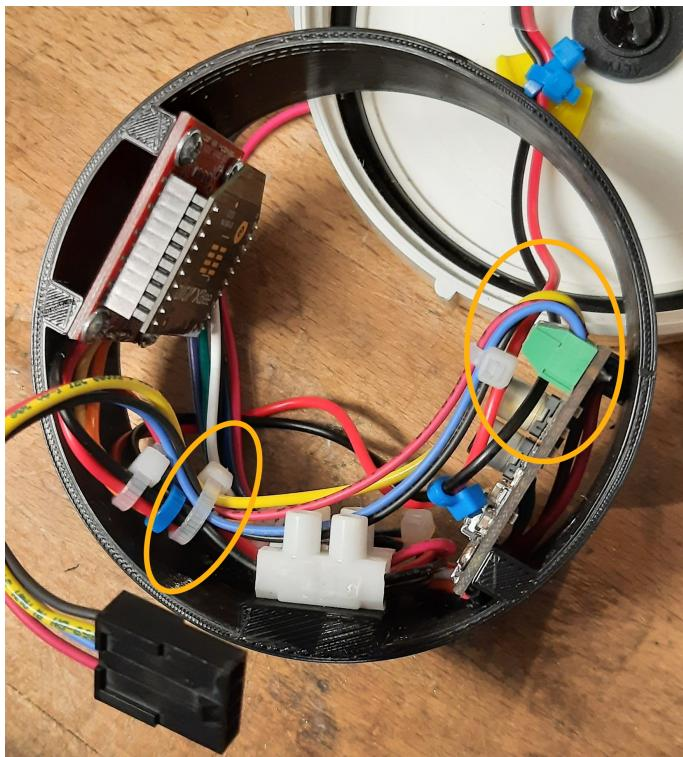

Figure 3. Motor wires secured to existing wiring.
13. Reinstall the tic249 motor controller into the plastic electronics mounting ring and secure the new tic249 wires using a cable tie to the existing cable bundle in the electronics mounting ring (Figure 3)